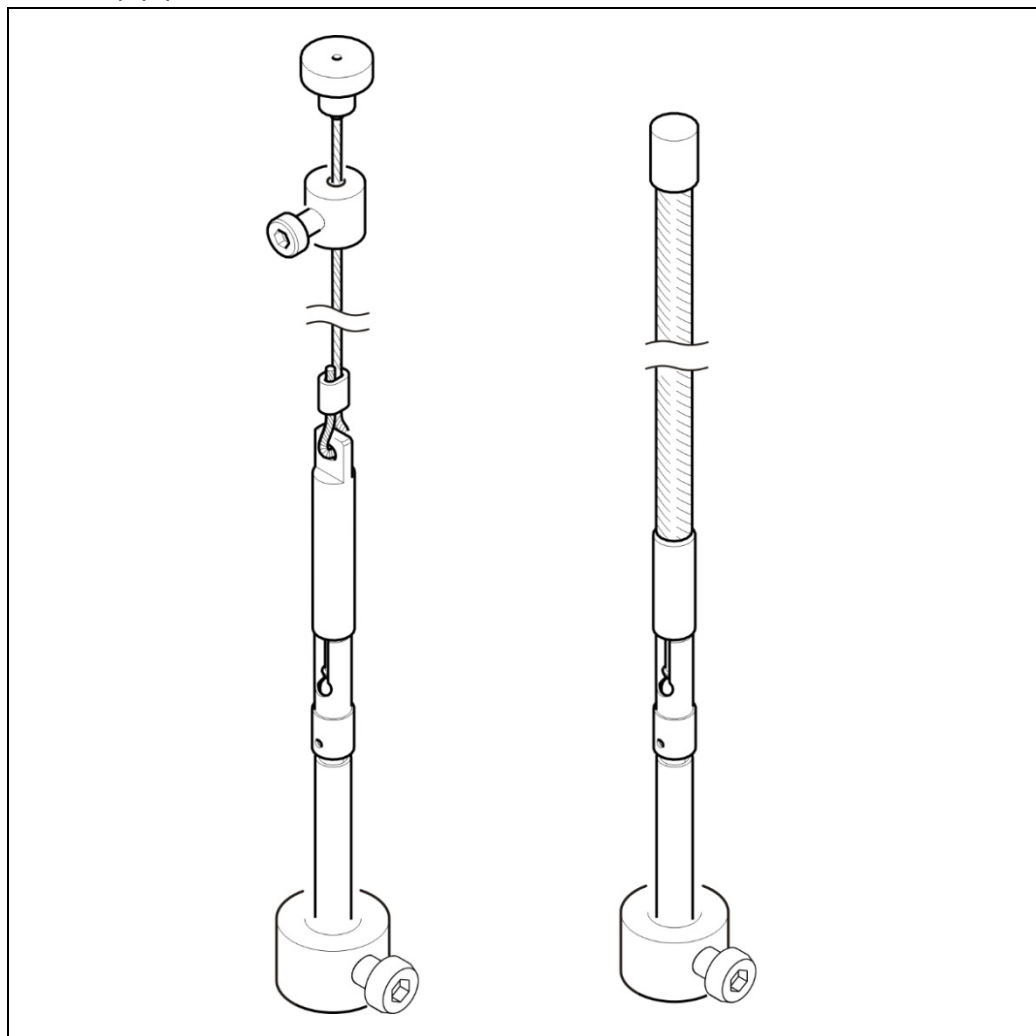

Fig. 17 Visual inspection source holder
1. Check all visible parts of the source holder and quick-link mechanism (Fig. 17) for corrosion by pulling out the flexible shaft or steel cable maximum up.